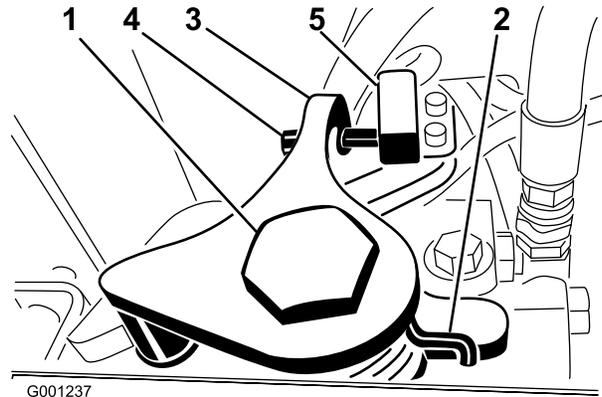

Figure 56
3. Loosen the retaining screw on the opposite side of the traction adjustment cam (Figure 56).
7. Adjust the screw on the neutral return arm (Figure 56) until the gap between the end of the screw and the switch contact is .090–.120 inch.